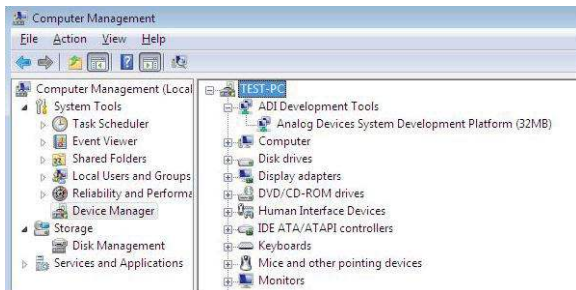

Figure 15. **Device Manager**, Checking the Board Connects to the PC Correctly
- c. The **Computer Management** window appears. Click **Device Manager** from the list of **System Tools** (see Figure 15).